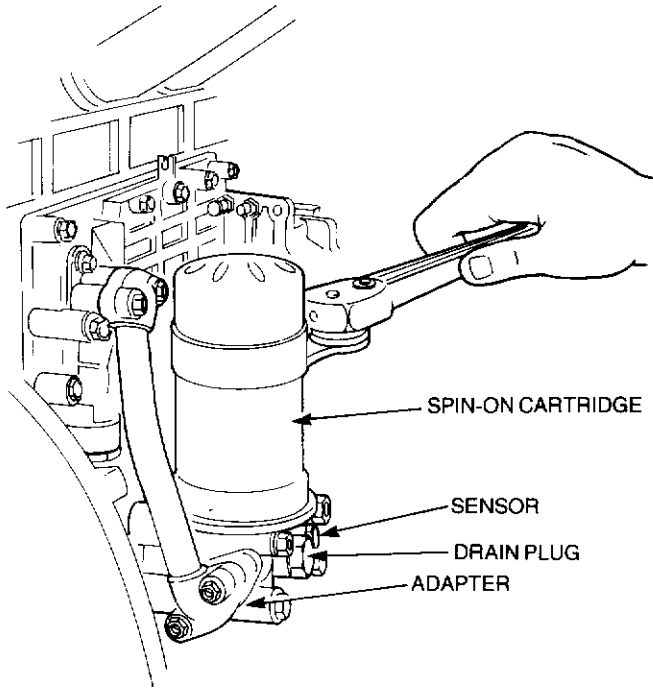

Figure 3-5 Oil filter removal
**322.** Unscrew the oil filter cartridge counter-clockwise, using a suitable oil filter removing tool if necessary (see Fig. 3-5). Apply a film of clean engine oil on the rubber seal of the new filter cartridge and install the filter. After the filter seal contacts the adapter, tighten the filter a further half a turn by hand only.